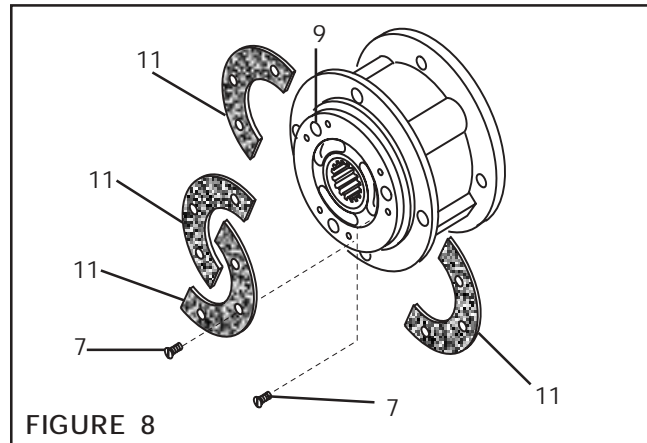

FIGURE 8
2. Remove the six old Flat Head Machine Screws (Item 7) and the first old split Friction Facings (Item 11) (See Figure 8).
3. Align the holes in the Splined Disc (Item 9) with the Flat Head Machine Screws (Item 7) that secure the second split Friction Facing (Item 11) (See Figure 8).
4. Remove the six old Flat Head Machine Screws (Item 7) and the second old split Friction Facing (Item 11) (See Figure 8).
5. Install the first new split Friction Facings (Item 11) and new Flat Head Screws (Item 7) (See Figure 8).
7. Install the second new split Friction Facings (Item 11) and six new Flat Head Machine Screws (Item 7) (See Figure 8).